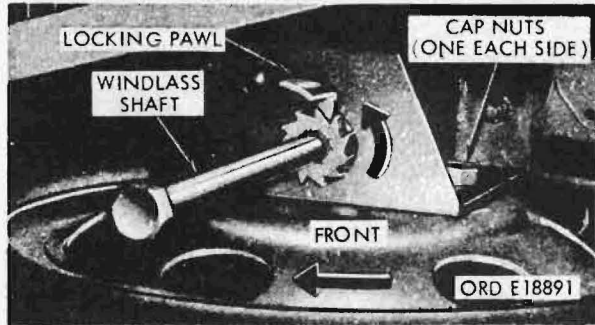

Figure 50. Spare wheel carrier and frame
- (35) Spare wheel carrier and frame (fig. 50). The spare wheel carrier is located in a different position on each type vehicle (refer to par. 121). The frame is unlocked to remove the spare wheel. The M275 and M275A1 are not equipped with a spare wheel assembly.